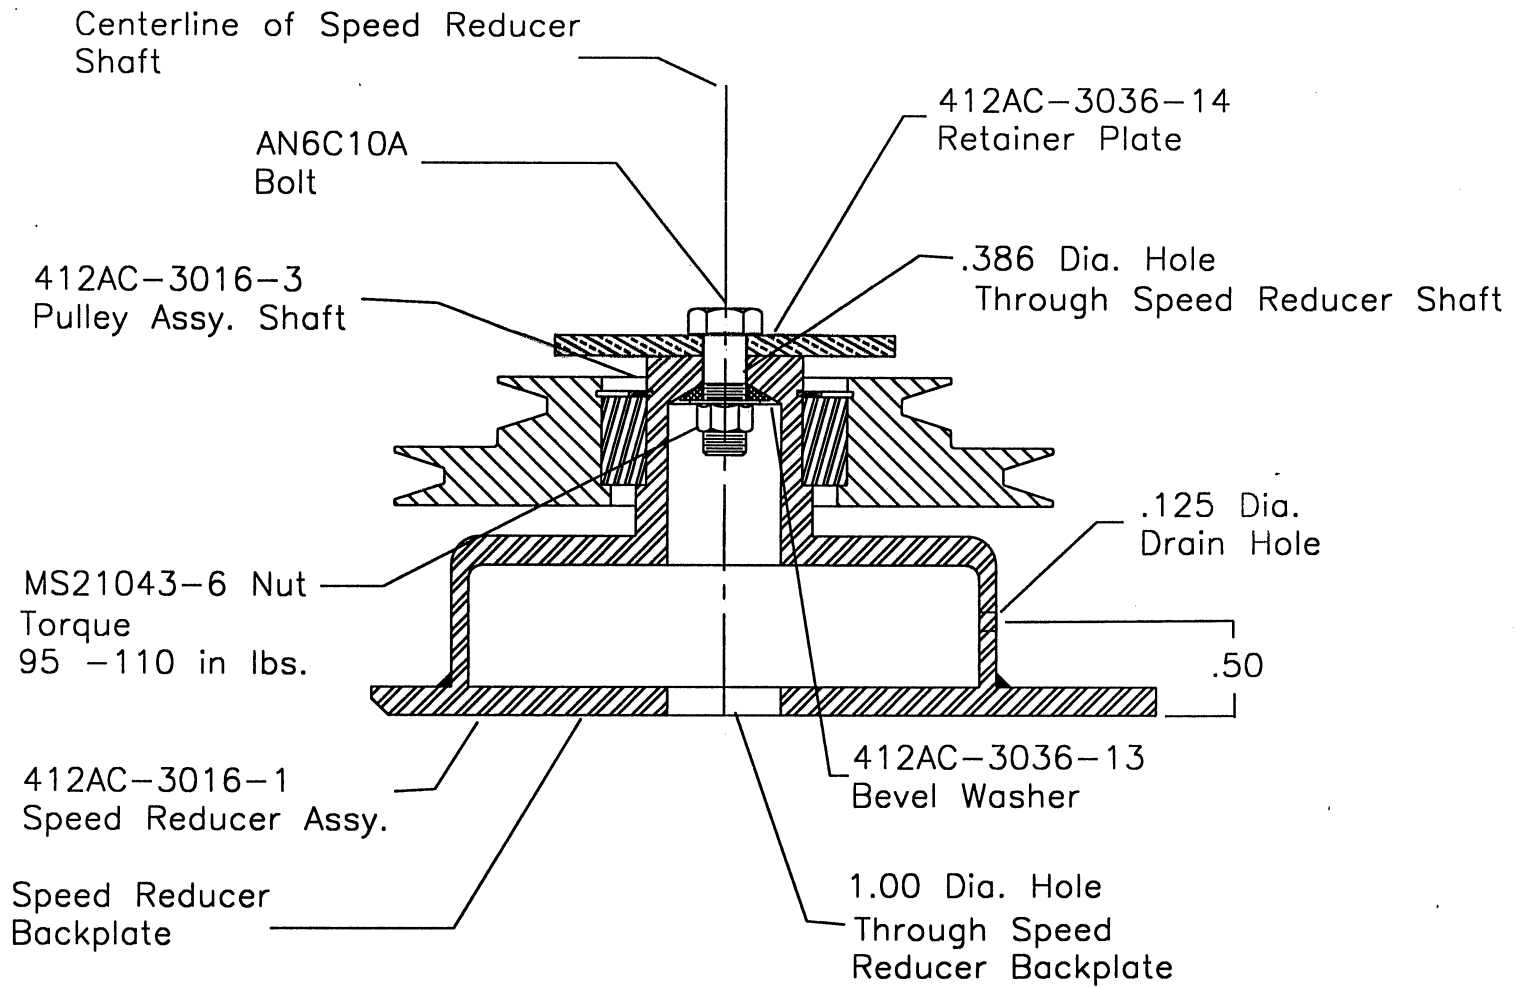

Figure 2, 412AC-3016-1 Speed Reducer Assy. Retainer Plate Modifications
1. Retainer Plate Installation Procedure. (See figure 2, Pg 6)